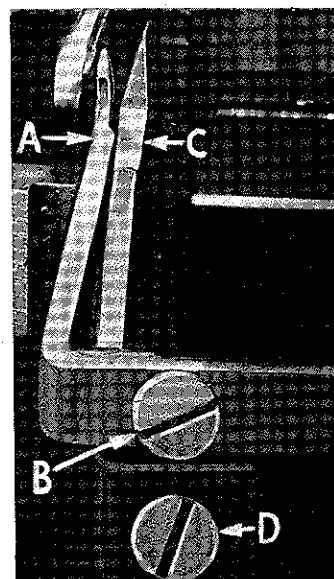

Fig. 6
Set rear needle guard (A, Fig. 6) as high as possible, without interfering with either lower looper or movement of lower knife holder, but still in position to deflect needle forward .002-.004 inch. Screw (B) is used to set rear needle guard. Make sure there is no interference between rear needle guard and lower looper.
Assemble front needle guard (C, Fig. 6). When lower looper is springing needle off rear needle guard, set front needle guard as close as possible to needle without touching. Screw (D) is used to adjust and set front needle guard. After this setting make sure there is no interference between needle guards and differential feed dog.